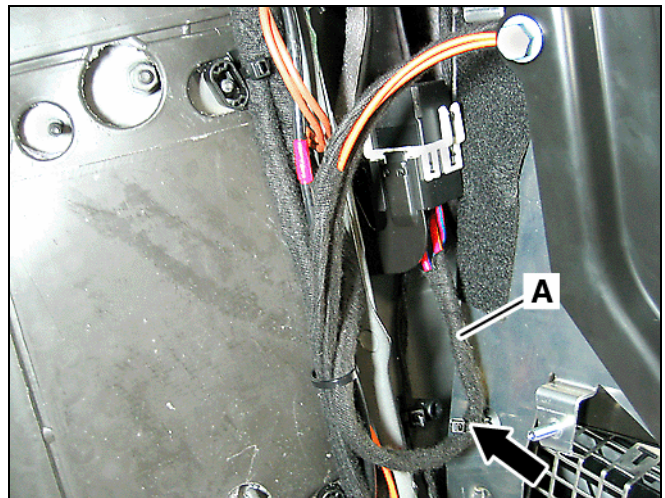

Figure 15
- Secure the wiring harness (A, Figure 15) for the fuel pump relay with the anchored wire tie (Arrow, Figure 15) attached to the SDARS control module bracket.